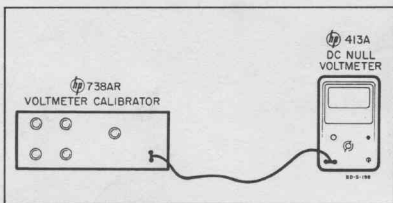

Figure 5-9. Performance Test (Voltmeter) Setup
- b. Switch the voltmeter calibrator function switch to OFF, and connect the output connectors to the 413A INPUT as shown in figure 5-9.